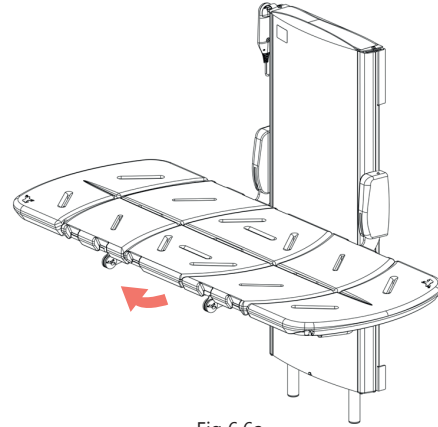

Fig 6.6a
- Reach underneath the stretcher and take hold of the guard. The guard is retained using magnets. (Fig 6.6a)